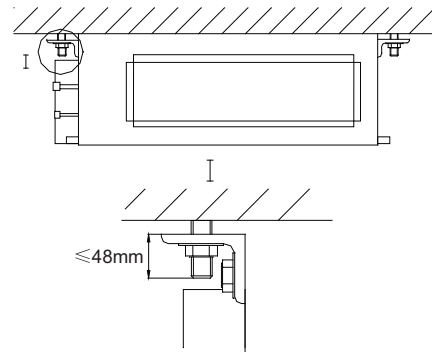

Fig. 52 – Install the indoor unit
3. Install the indoor unit on the ceiling, as shown in Fig. 52.